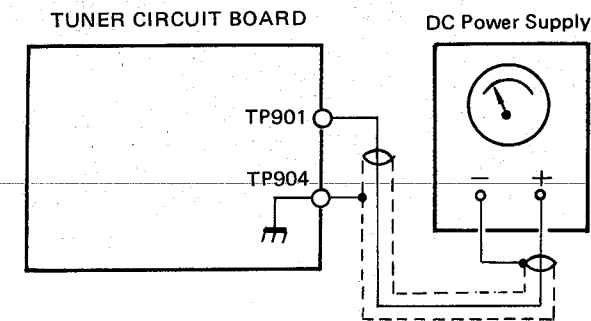

Fig. 15
1. Set up voltmeter as shown Fig. 15.